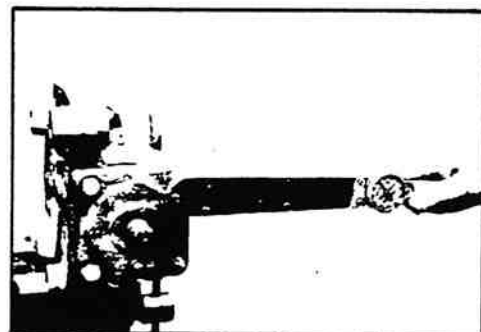

Figure 11-87.
36. Assemble four valve housing bolts (25) into the housing (1) and tighten to 145-155 ft. lbs. (196-210 Nm) torque (figure 11-87).